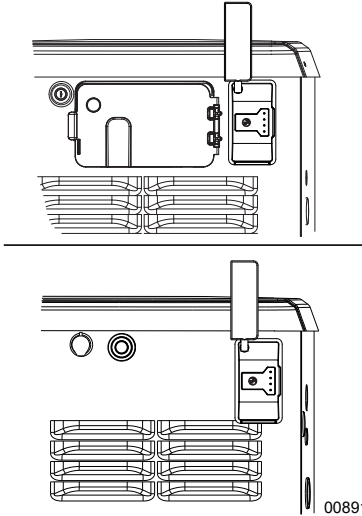

Figure 3-8. Mobile Link Cellular In Place
- See **Figure 3-8**. With connector installed, tighten plastic fitting to secure Mobile Link cellular unit until tight and device is secured to end panel.